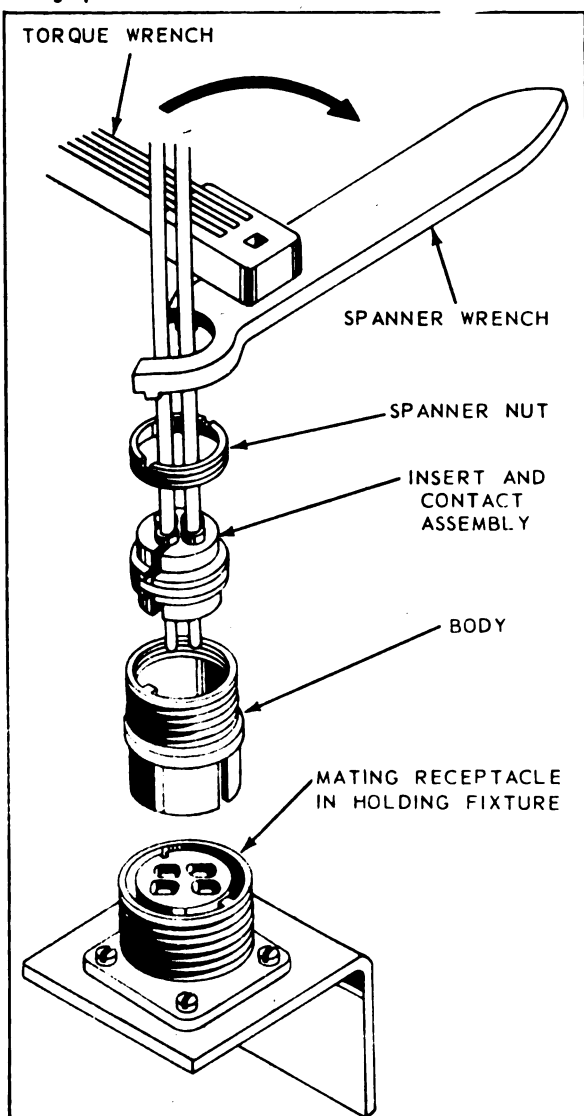

Figure 3-62. Torque Wrench Used on Bendix Fireproof Connector
- l. Start spanner nut into connector body by hand and tighten with spanner wrench (see table 3-16), using standard torque wrench handle (1/4 inch drive), as shown in figure 3-62. Tighten to torque values in table 3-16.